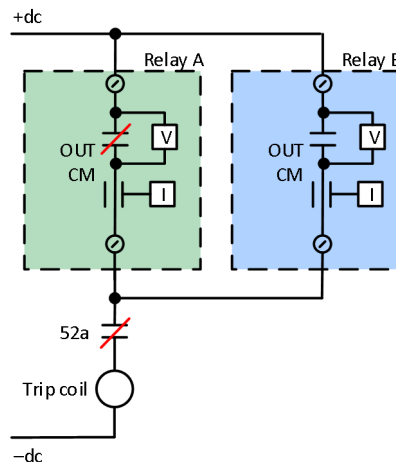

Figure 6 Measurement of Voltage Across and Current Through CM Contact Outputs
Contact outputs **OUT101** through **OUT103** are denoted with **CM** (see *Figure 2*), indicating they are Circuit Monitoring (CM) outputs. These high-speed, high-current-interrupting contact outputs include integrated measurements of the dc voltage across the output as well as the dc current flowing through the output, as shown in *Figure 6*. These measurements are provided as analog quantities that are available for use in SELOGIC programming and recorded in the event report for circuit and breaker analytics.